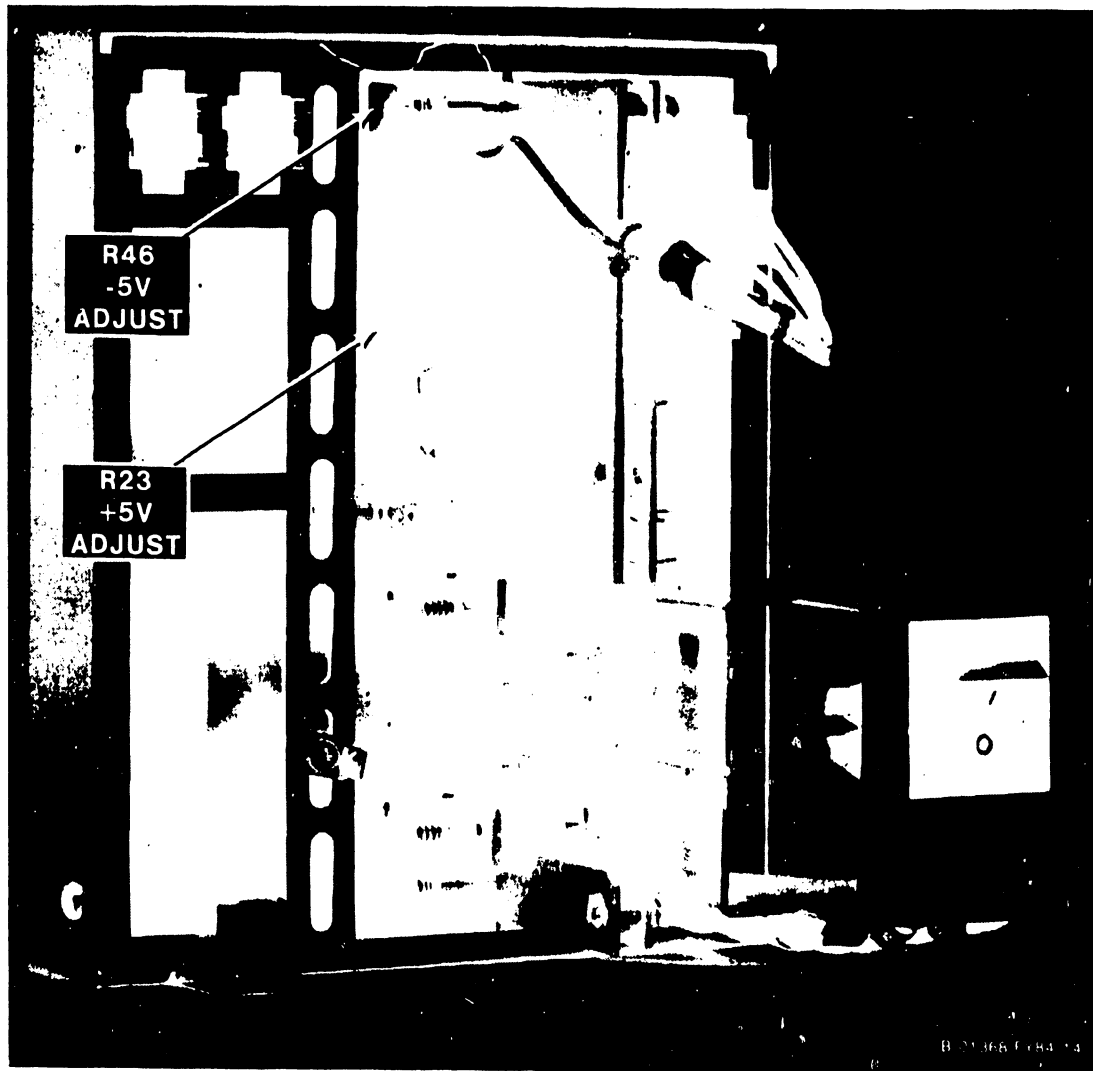

Figure 4-6. Switching Power Supply (Left Side View)
5. With a nonmetallic adjustment tool, adjust the voltage(s) to within the operating limits. (See figures 4-6 and 4-7 for the locations of the adjustment pots.)